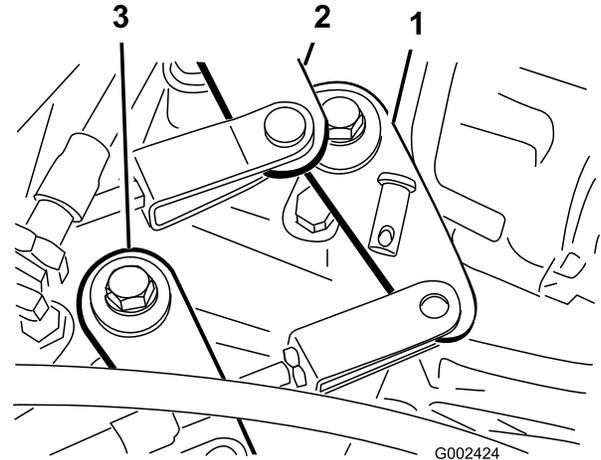

Figure 56
2. Remove the clevis pins securing the shift cables to the transaxle shift arms (Figure 56).